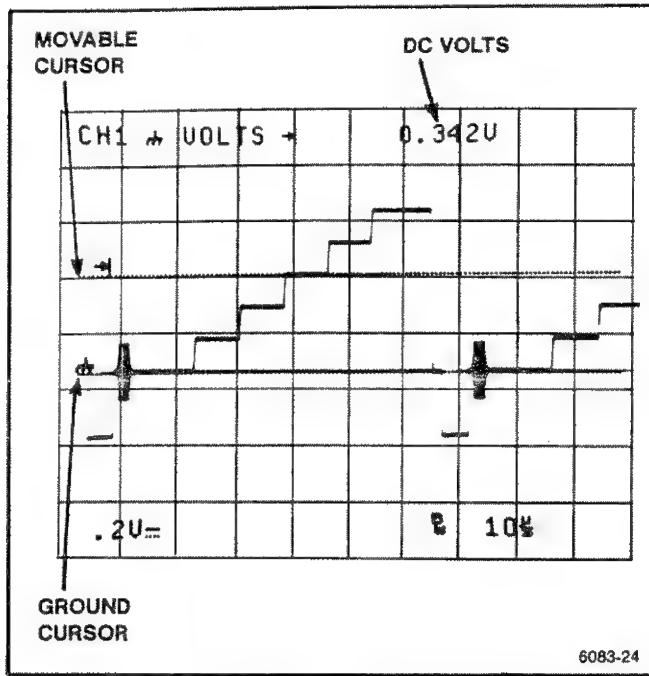

Figure 6-10. Instantaneous dc voltage measurement.
3. Position the independent cursor using the \pm or Δ control to the measurement point on the waveform and read out the dc value of the cursor position (shown in Figure 6-10). (The \pm or DELAY control has no effect.)
The test signal used for illustration purposes shown in Figure 6-10 is a video test signal. For triggering on video waveforms, select TV LINE Trigger COUPLING and negative Trigger SLOPE; for other signal types, no change of COUPLING or SLOPE is required.